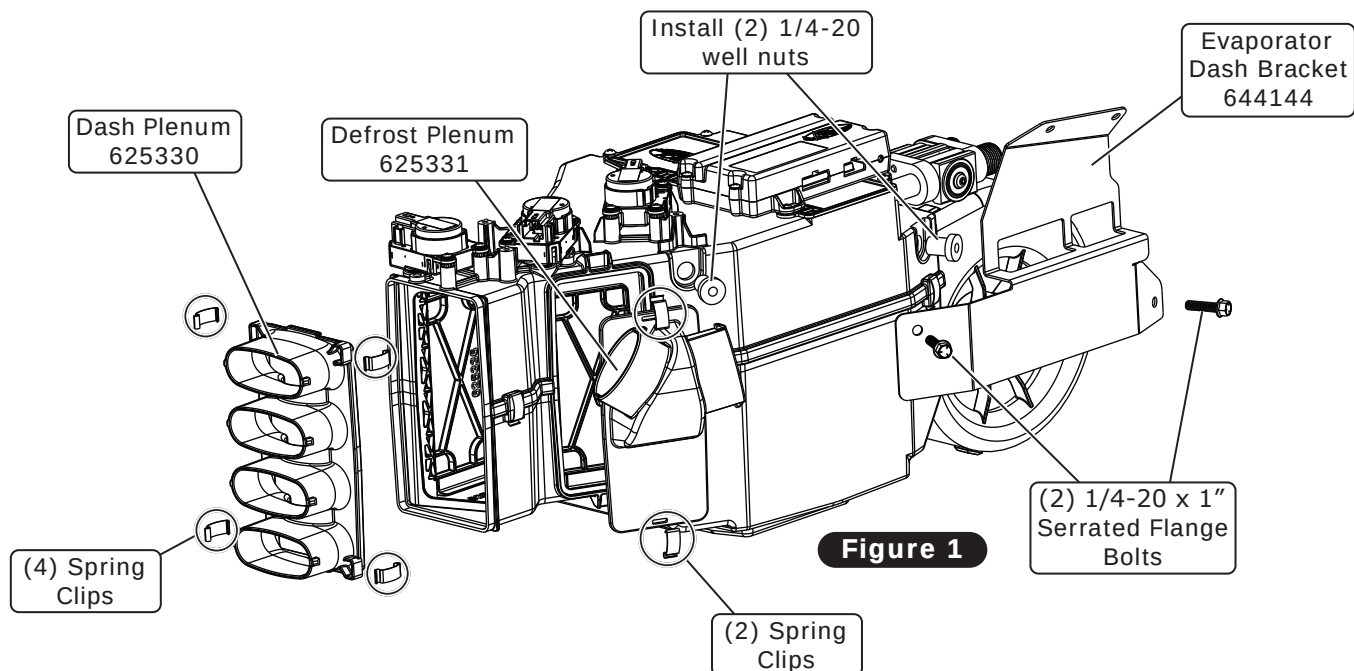

Figure 1
1. Install the defrost plenum onto the evaporator module using (2) spring clips (See Figure 1, below).
2. Install the dash plenum onto the evaporator module using (4) spring clips (See Figure 1, below).
3. Install (2) 1/4-20 well nuts as shown in Figure 1, below.
4. Secure the evaporator dash bracket onto the evaporator using (2) 1/4-20 x 1" serrated flange bolts (See Figure 1, below).